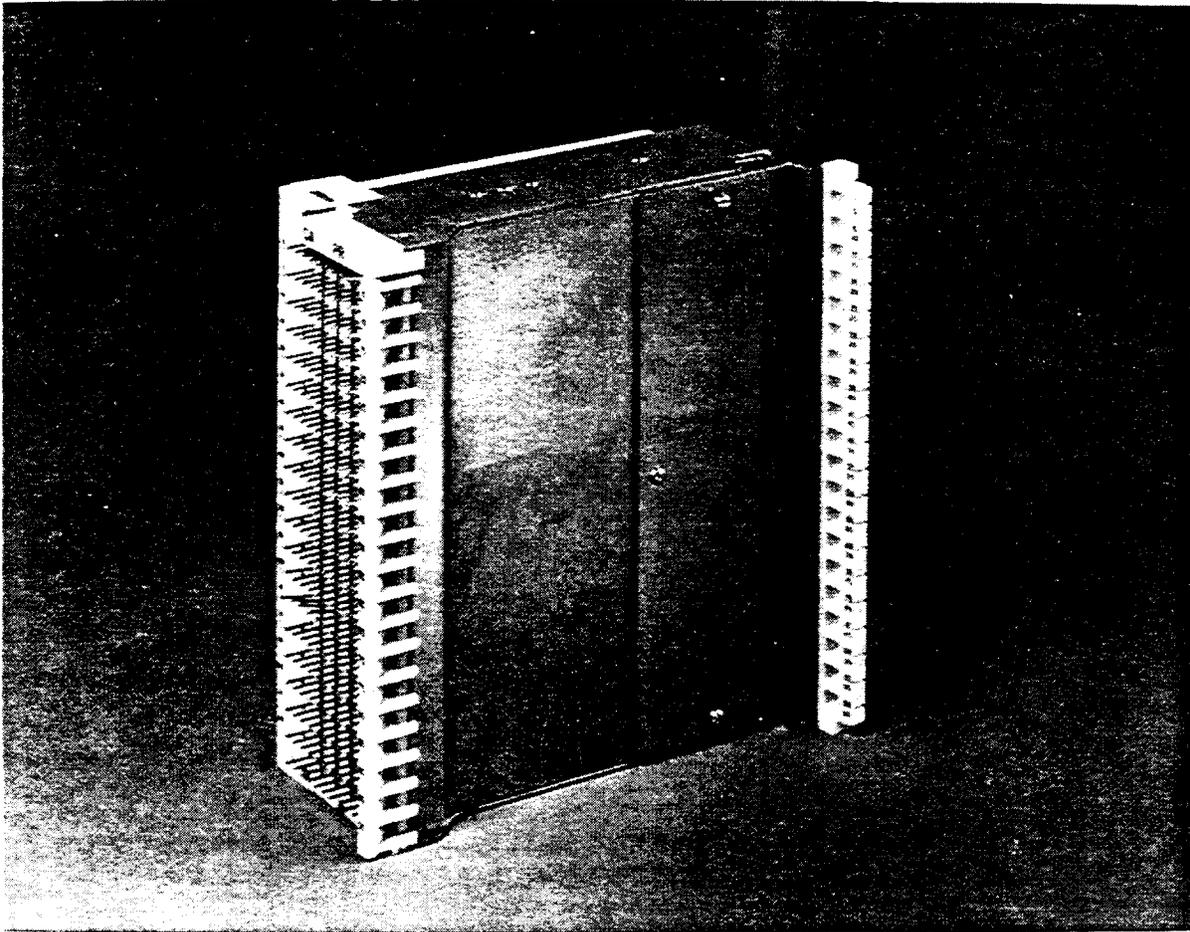

Figure 28. Right Side View 310L UL Listed Connector
**7.04** As in other Building Entrance Protector designs, the loose fusible length conductors are encased with a metal side cover (Figure 28) to form a fusing chamber and prevent any arcing or fusing activity from affecting adjacent equipment or terminations.